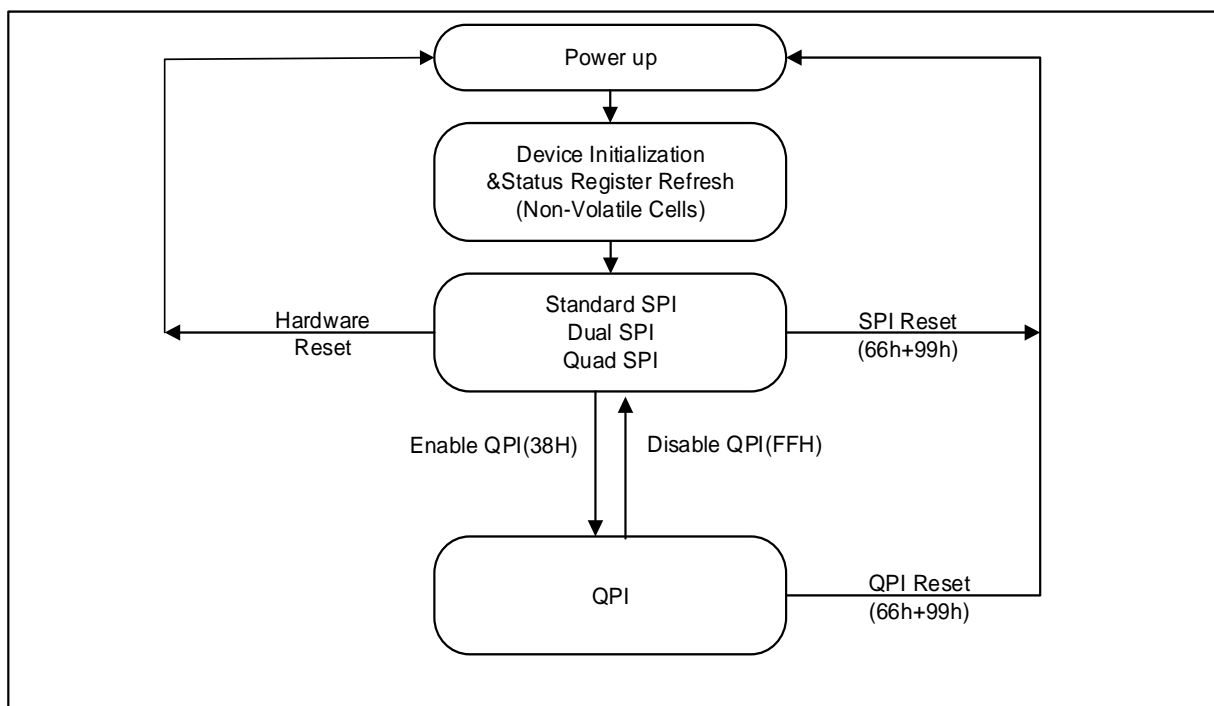

Figure 3. XM25QU32C Serial Flash Memory Operation Diagram
The XM25QU32C supports Quad Peripheral Interface (QPI) operations only when the device is switched from Standard/Dual/Quad SPI mode to QPI mode using the “Enter QPI (38h)” instruction. The typical SPI protocol requires that the byte-long instruction code being shifted into the device only via DI pin in eight serial clocks. The QPI mode utilizes all four IO pins to input the instruction code, thus only two serial clocks are required. This can significantly reduce the SPI instruction overhead and improve system performance in an XIP environment. Standard/Dual/Quad SPI mode and QPI mode are exclusive. Only one mode can be active at any given time. “Enter QPI (38h)” and “Exit QPI (FFh)” instructions are used to switch between these two modes. Upon power-up or after a software reset using “Reset (99h)” instruction, the default state of the device is Standard/Dual/Quad SPI mode. To enable QPI mode, the non-volatile Quad Enable bit (QE) in Status Register-2 is required to be set. When using QPI instructions, the DI and DO pins become bidirectional IO0 and IO1, and the /WP and /HOLD pins become IO2 and IO3 respectively. See Figure 3 for the device operation modes.